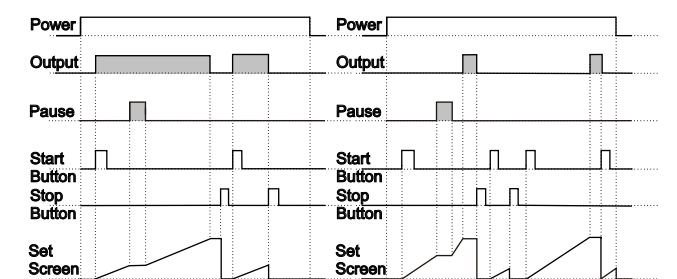

Figure 2.1, Figure 2.2, Figure 2.3, Figure 2.4
2.1.1 If Downcount **dEc**=1 and **outf** is **on** the control diagram is shown in Figure 2.1